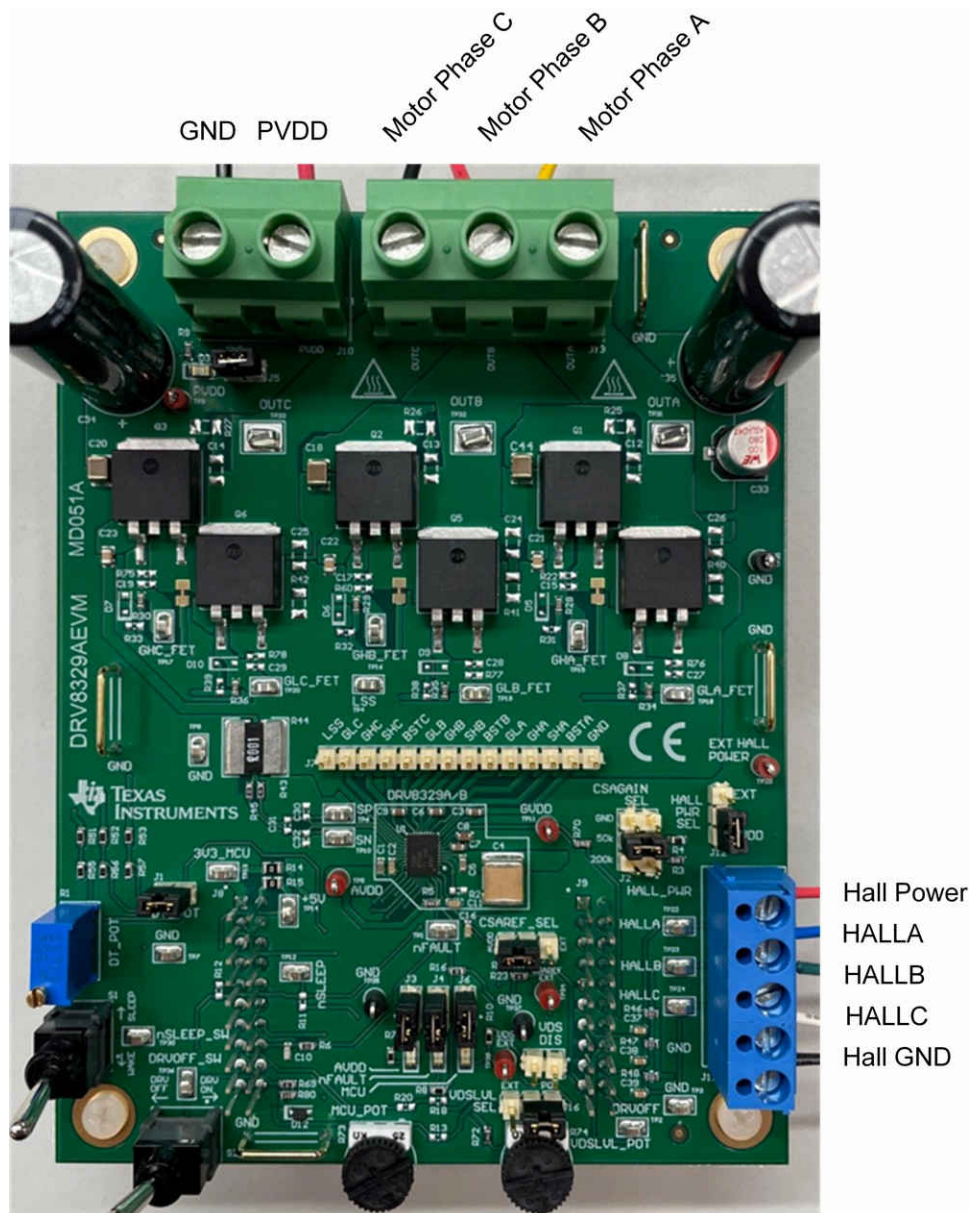

Figure 4-2. Connections from motor to DRV8329AEVM
2. Connect the motor phases to OUTA, OUTB, and OUTC in the correct order to connector J13. For sensed applications, connect the Hall sensors to the appropriate locations on the 5-pin connector J11 as shown in Figure 4-2. Select AVDD or EXT on jumper J11 to choose the Hall power source voltage.
Figure 4-2 shows the power supply and motor connections made to the DRV8329AEVM in order to spin a 3-phase sensed or sensorless Brushless-DC motor.